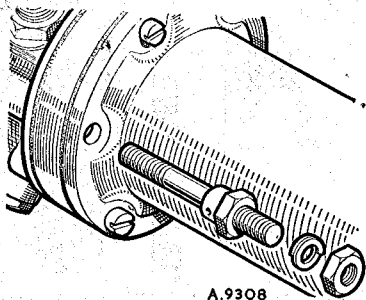

Fig. 1. The earthing stud on earlier pumps
3. Unscrew the coil housing securing screws (7), using a thick-bladed screwdriver to avoid damaging the screw heads.
4. Remove the earthing screw (9). On earlier pumps a 2 B.A. earthing stud (Fig. 1) was fitted in the 9 o'clock position on 12-volt pumps, and in the 12 o'clock position on 6-volt pumps, looking at the front or pedestal end of the pump.
5. The coil housing (6) may now be removed from the body (1). Next remove the diaphragm and spindle assembly (2) by taking hold of the diaphragm and unscrewing it anti-clockwise until the armature spring (5) pushes the diaphragm away from the coil housing. It is advisable to hold the housing over the bench so that the 11 brass rollers (3) will not fall onto the floor. The diaphragm and its spindle are serviced as a unit and should not be separated.
Note. Earlier L and HP dual pumps have an earthing stud fitted in the 9 o'clock position (see Fig. 1).